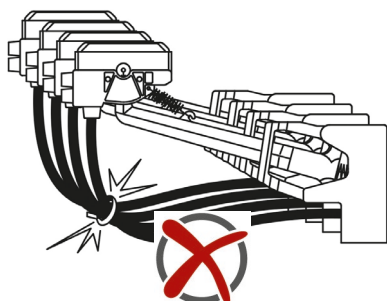

Fig. 103: Do not fix connection cable with cable tie
- Make connection cable straight and highly flexible in order to avoid deflection, pulling or pressing on the sliding contacts or movement restrictions of the current collector (see Fig. 97 to Fig. 103).
Pay attention to the selection of the connection cable and to a correct and tension-free laying of the connection cables (see Fig. 99 to Fig.: 103).